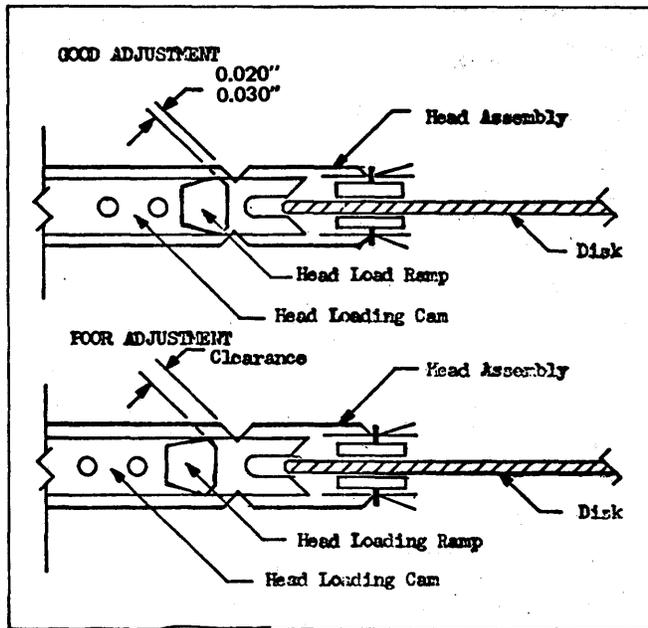

Figure 5-16. Head Load Cam Adjustment
6. Adjust the ramp so there is a 0.020"-0.030" gap between the front of the cam and the "V" shaped ramp on the head arms. (See figure 5-16).